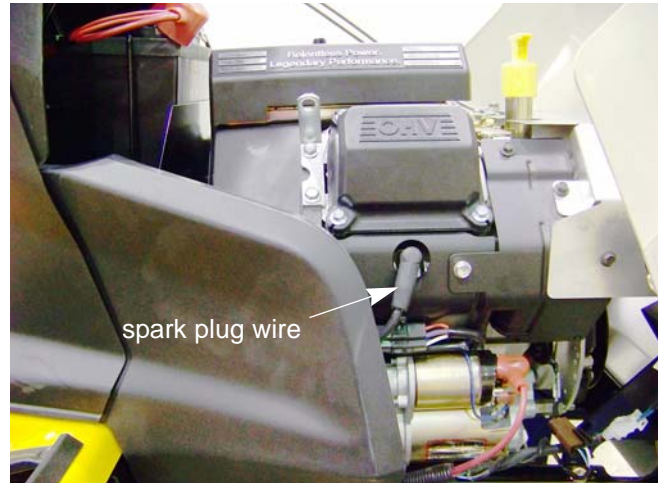

Figure 9.1
1. Disconnect the spark plug wires on each side. See Figure 9.1.